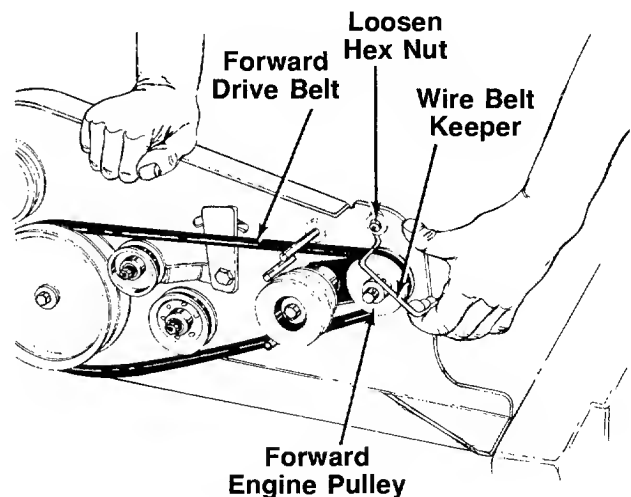

FIGURE 27.
- B. Pull bottom of wire belt keeper out and then upward, pivoting it away from the forward engine pulley. See figure 27.